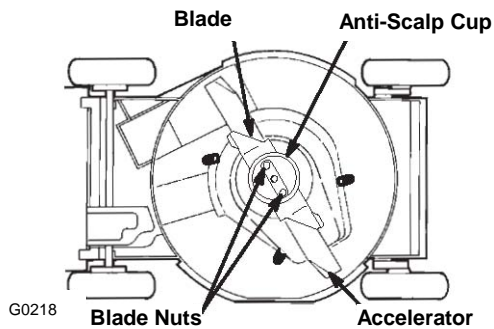

Figure 24
4. Tip the lawn mower onto its **right** side (Fig. 24 and 25.).
For Blade Brake Clutch Units: Remove the blade nuts, anti-scalp cup, accelerator, and the blade (Fig. 24)